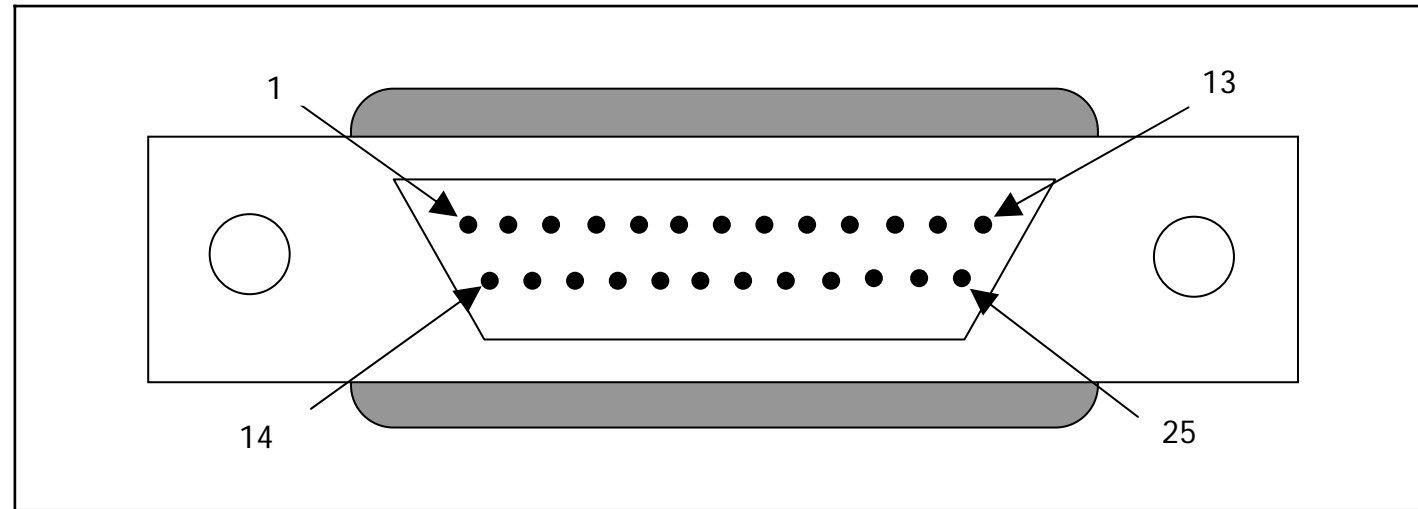

Figure 15-16. DB-25 Connector
- ❑ Fig 15-16 and 15-17 show DB-25 and Centronics sides of the printer cable